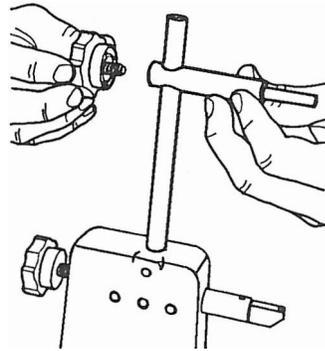

Fig. A-9
10. Install the follower support (46) and thread the cup point setscrew (45) into the follower support, as seen in Fig. A-9. To seat the cup point of the screw against the flat of the follower upright, wiggle the follower support as you tighten the knob.